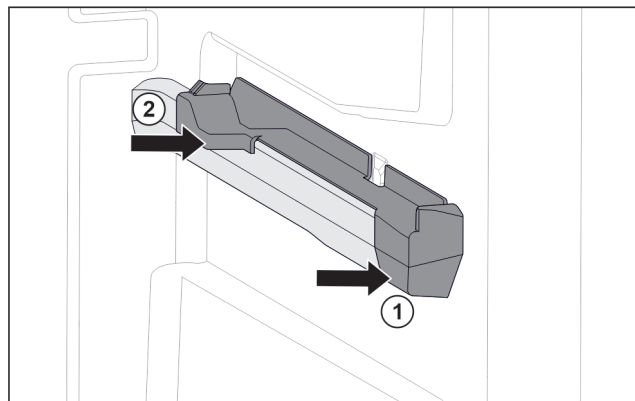

Fig. 84 Attachment on the right moulded rib
- Position attachment on moulded rib at the front. Fig. 84 (1)
- Press on attachment at the back. Fig. 84 (2)